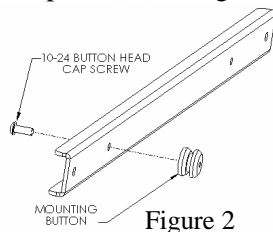
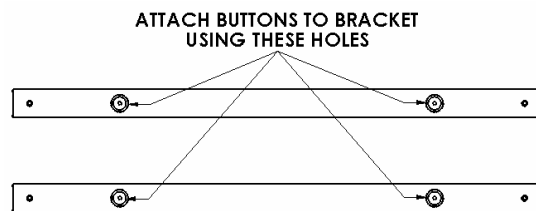

Figure 2
Figure 3
1. Using a 10-24 x 1/2" button head cap screw inserted from back side of bracket, secure mounting button, with chamfered hole of mounting button (larger surface) facing bracket, to top and bottom brackets (four places) (see Figure 2 & Figure 3).